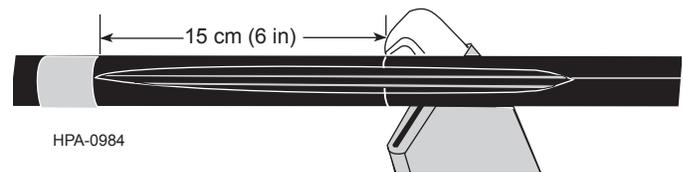

Figure 21
Step 7: At a point approximately 15 cm (6 in) from the tape wrap, use the hook blade knife to score a ring cut around the black outer sheath. Do not cut completely through the sheath (Figure 21).